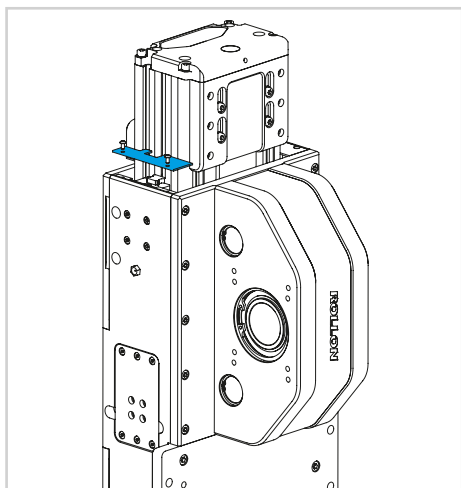

Fig. 19
- 1) Remove the cover plate on top or lower side of the carriage depending where the sliding block has to be replaced. Unscrew the two screws (see Fig.19).